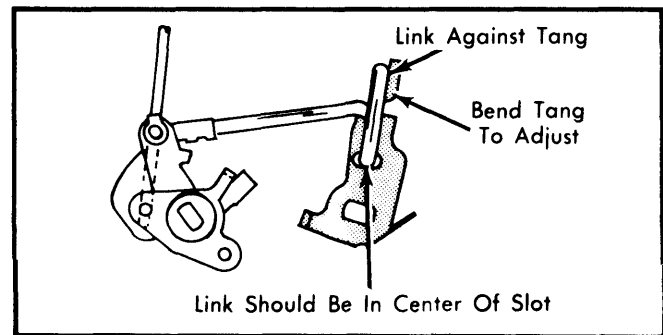

Fig. 14 Adjusting Secondary Throttle Opening Linkage
- 1) Open primary throttle valves until secondary throttle link just contacts tang on secondary throttle lever. See Fig. 14.